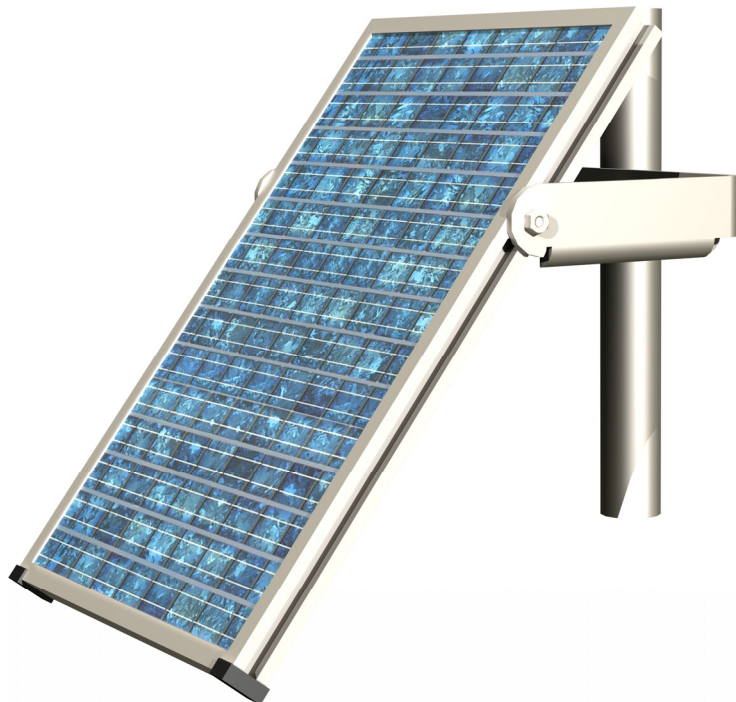

FIGURE 3.1-5. SP10 Solar Panel
1. Mount the solar panel to the mast, facing south (northern hemisphere). Position the solar panel at the top of the 1 1/4 inch diameter section of the mast. Install using its mounting hardware (see Figure 3.1-5).